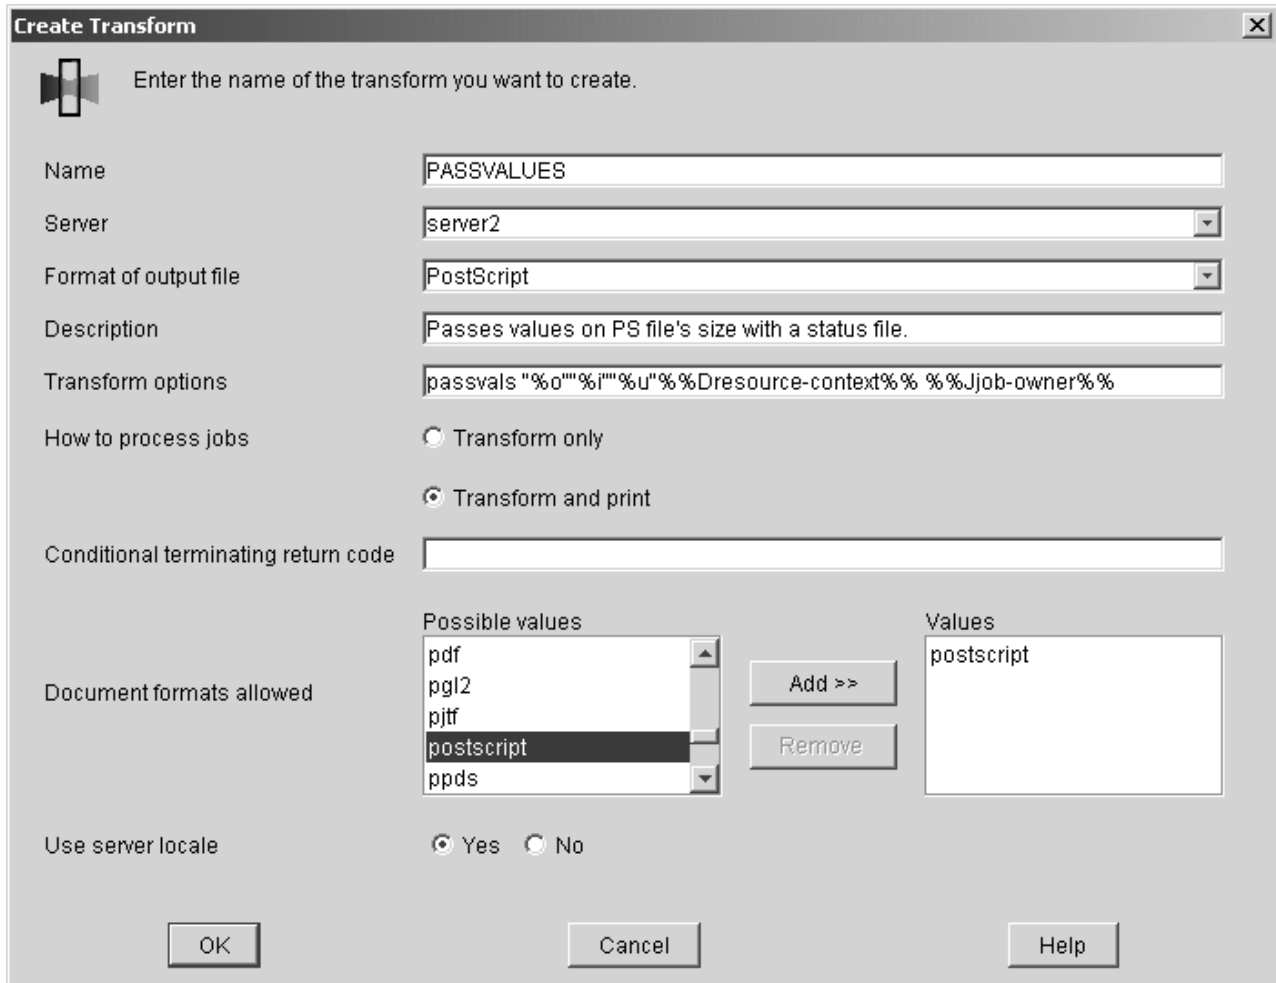

Figure 18. Create Transform dialog: Define a transform to pass job attributes
3. In the **Create Transform** dialog, fill in the fields as shown in Figure 18 on page 221.